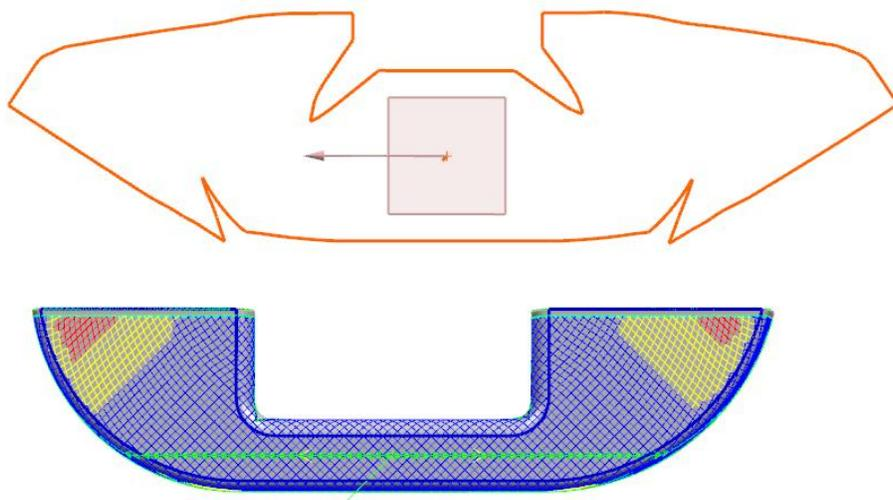

Figure 4–77
8. Switch to the NX window to display the producibility and net flat pattern results as shown in Figure 4–77.